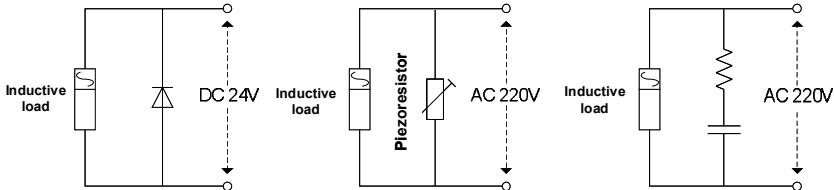

Fig.3-5 Application of inductive load surge suppressor
- ◆ When the inverter is connected to the inductive load equipment (e.g. electromagnetic contactor, relay and solenoid valve), surge suppressor must be installed on the load equipment coil, as shown in Fig.3-5.